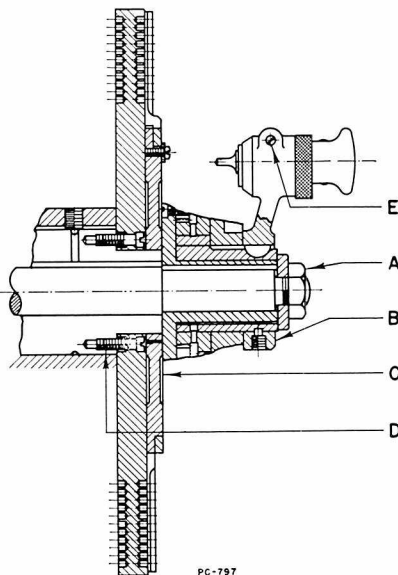

Figure 66A
The index pin in the crank for the small plate is eccentric to provide a method of adjusting the pin from the 100-hole to the 54-hole circle, and vice versa. Merely loosen screw "E" (Figure 66A), rotate the pin to the desired circle of holes, and then retighten the screw.
1. Remove nut "A" and the washer behind it. (Figure 66A).